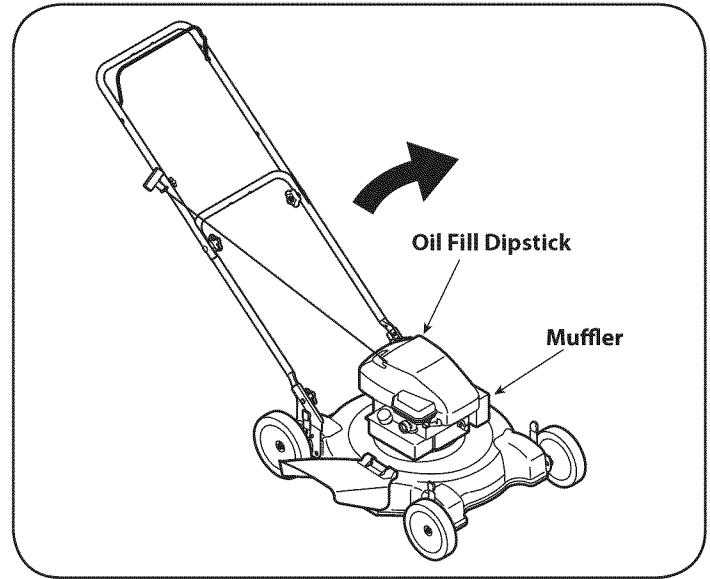

Figure 13
3. Remove the oil fill dipstick and drain the oil into the container by tipping the engine toward the oil filler neck. See Figure 13.
2. Tip mower so that it rests on the housing, keeping the muffler side down. Refer back to Figure 13. Hold mower firmly.